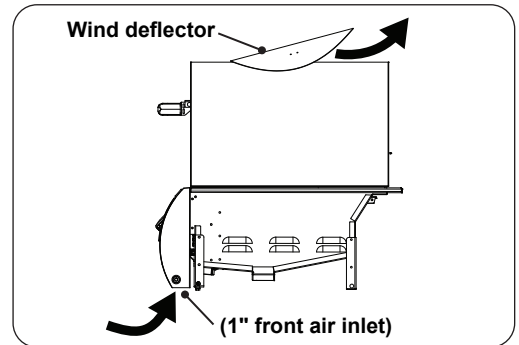
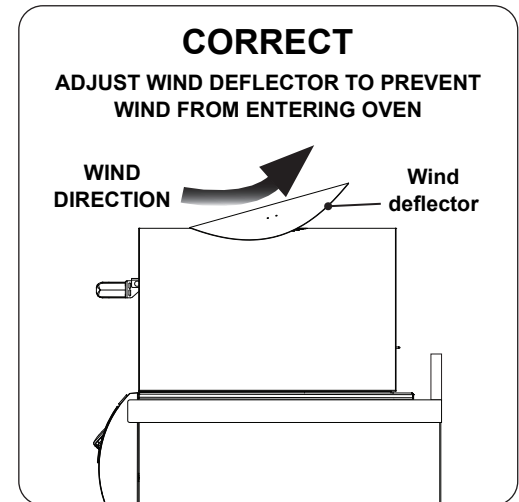

Fig. 19-2 Airflow diagram
Fig. 19-3 Airflow direction - CORRECT
Proper airflow (front-to-back, Fig. 19-2) **MUST** be maintained for the unit to perform as it was designed. If airflow is blocked, overheating and poor combustion will result. Do not block the 1" front air inlet along the bottom of the control panel.
**CAUTION:** Wind blowing into or across the oven exhaust (Fig. 19-4) can cause poor performance and/or dangerous overheating. Install the pizza oven so that the prevailing wind blows toward the front of the pizza oven (Fig. 19-3). A wind deflector is equipped to assist in proper airflow during windy conditions. See Fig. 19-2. **THE WIND DEFLECTOR WILL GET HOT WHEN THE UNIT IS ON.**